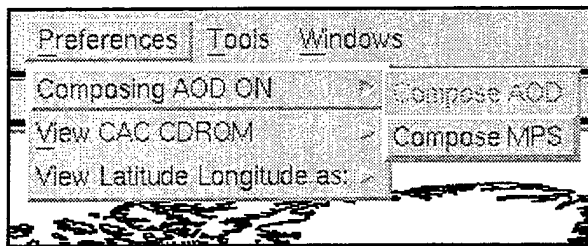

Fig. 27 — Composing preferences
- When switched to *Composing MPS ON*—by clicking on the *Compose MPS* option (Fig. 27)—MMC will compose an image based on the restrictions of MPS images (e.g., image size). DTED data is only available under the *Compose MPS* preference.